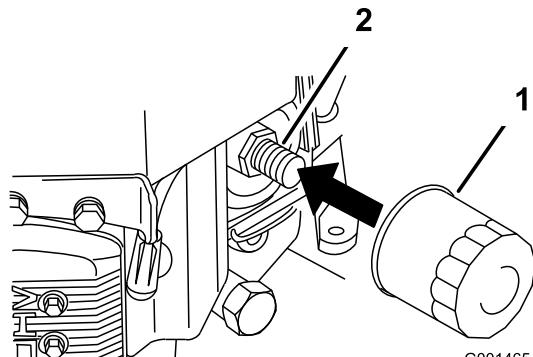

Figure 24
2. Remove the old filter (Figure 24).
3. Apply a thin coat of new oil to the rubber gasket on the replacement filter (Figure 24).
4. Install the replacement oil filter to the filter adapter, turn the oil filter clockwise until the rubber gasket contacts the filter adapter, then tighten the filter an additional 3/4 turn (Figure 24).